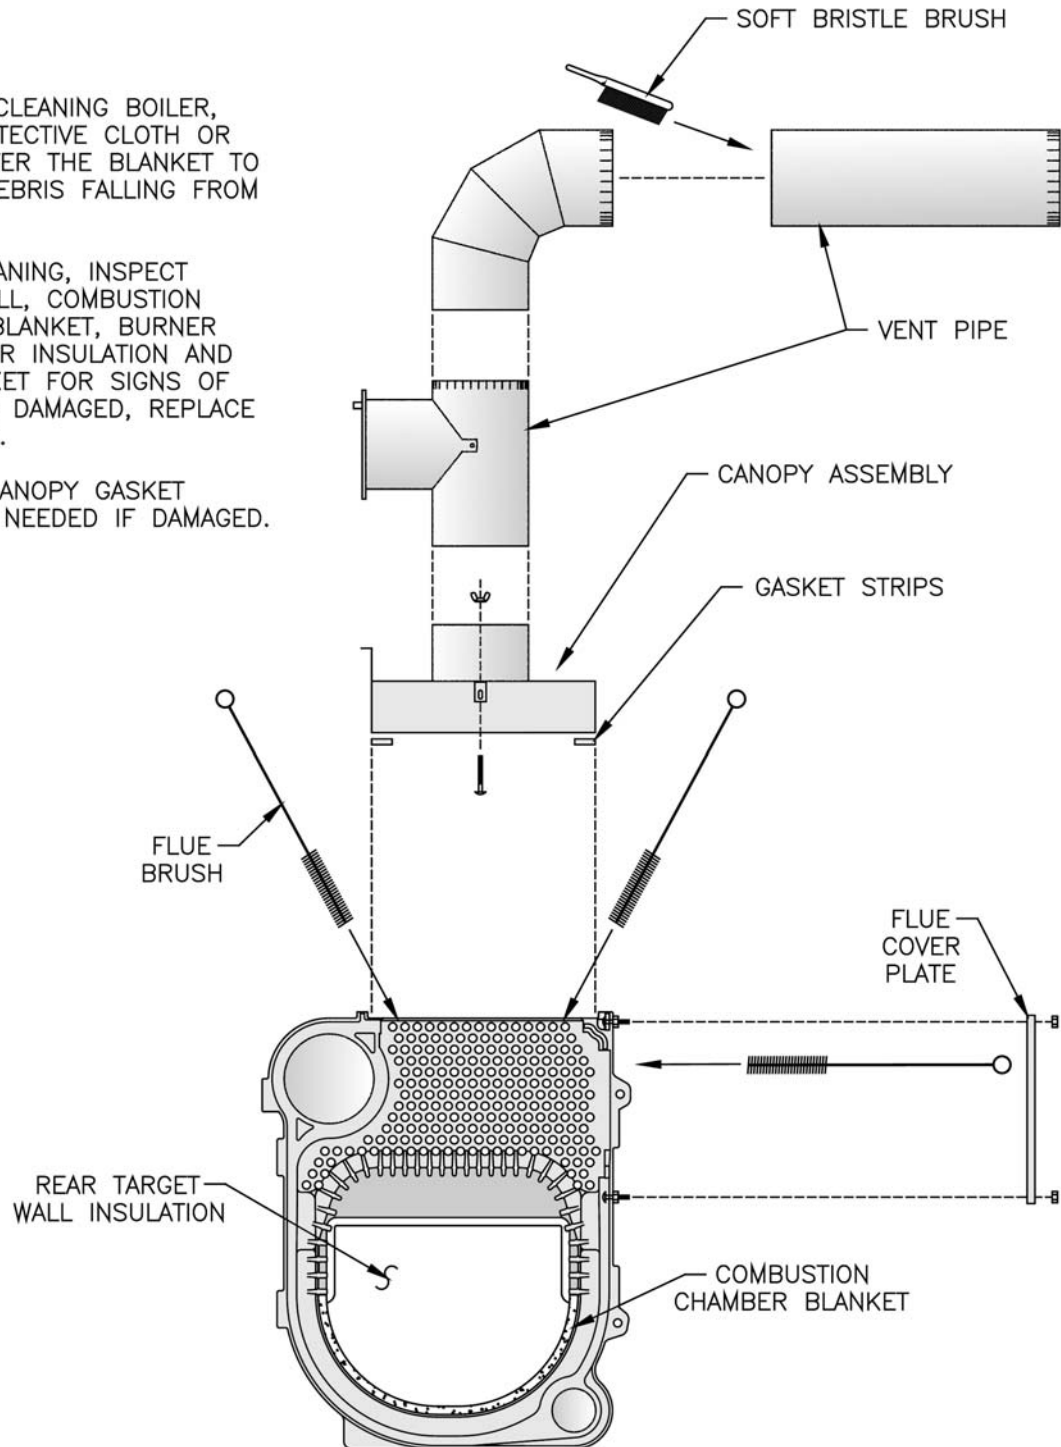

Figure 30: Cleaning of Boiler Flueways
A. CLEAN THE FLUEWAYS (See Figure 30).
2. For access to combustion chamber remove two (2) 5/16" - 18 cap screws, one on the right (1¼" long) and one on the left (¾" long). If boiler is equipped with flexible fuel line(s), swing door open.